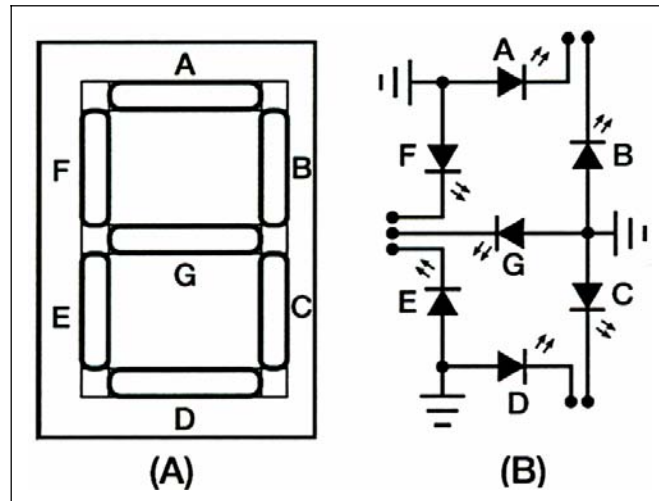
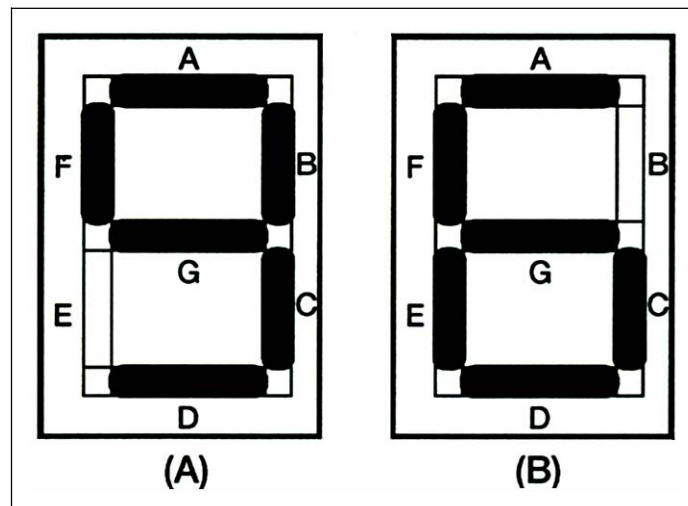

Figure 3-28. Seven-segment LED Display
Figure 3-29. Seven-segment LED Display Examples
3-53. LEDs are widely used as “power on” indicators of current and as displays for pocket calculators, digital voltmeters, and frequency counters. For use in calculators and similar devices, LEDs are typically placed together in seven-segment displays. Figure 3-28, view (A) shows the display with the seven LED segments labeled A through G. Figure 3-28, view (B) shows a schematic for a common-anode display. All anodes in a display are internally connected. The segments can be lit in different combinations to form any number from “0” through “9.” When a negative voltage is applied to the proper segments, a number is formed. For example, if negative voltage is applied to all segments except that of LED “E,” the number “9” is produced (see Figure 3-29, view (A)). If the negative voltage is changed and applied to all segments except LED “B,” the number “9” changes to “6” (see Figure 3-29, view (B)).